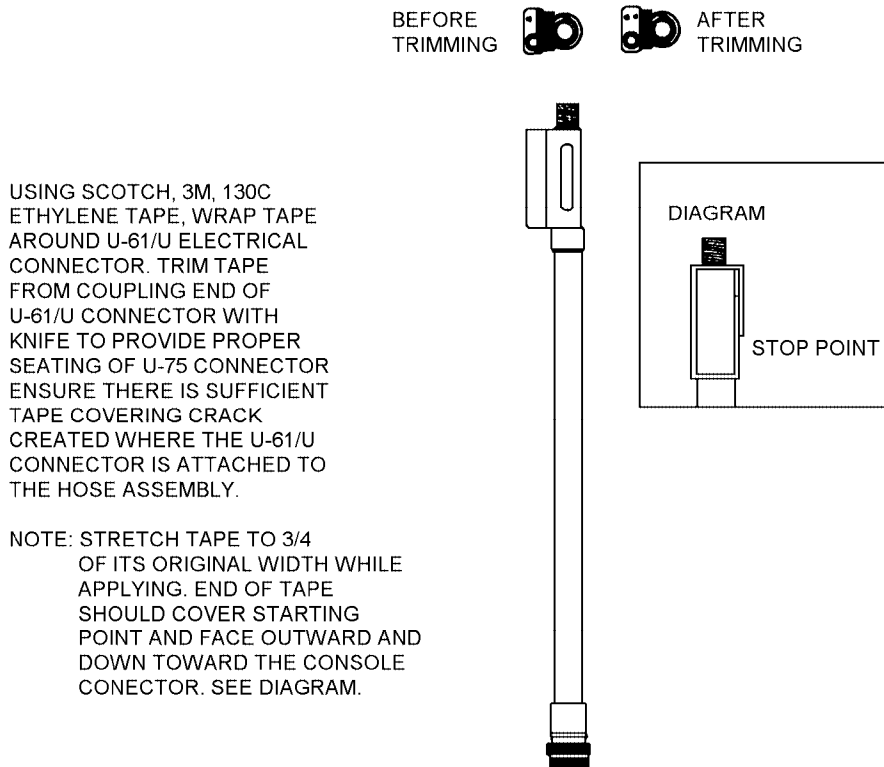

Figure 4-58. Unmodified Regulator to Seat Kit Hose Assembly Taping
a. Figures 4-58 to 4-61 provide instructions (that shall be followed) for (CBR hardening) taping of unmodified regulator to seat kit hoses (P/N 33C1189-1).